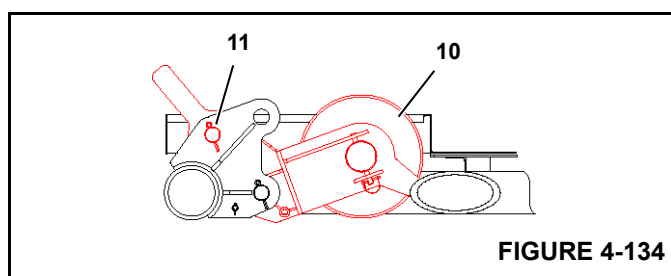

FIGURE 4-134
3. When done, store the rigging line on Drum 6 and store wire rope guide (10) as shown in Figure 4-134.
4. Rigging winch wire rope guide stored. See Figure 4-134.
5. Luffing hoist wire rope guide (item 9 on page 4-203) stored, deployed, or removed. See Luffing Jib Operator Manual for procedure. ***This wire rope guide must be stored or removed for 55 m and 60 m boom lengths if the boom will be operated above 80°.***
6. Luffing hoist wire rope guide (item 10 on page 4-203) stored, deployed, or removed. See Luffing Jib Operator Manual for procedure.
7. Luffing hoist wire rope guide (item 6 on page 4-213) stored, deployed, or removed. ***This wire rope guide must be stored or removed for 55 m, 60 m, and 65 m boom lengths.***